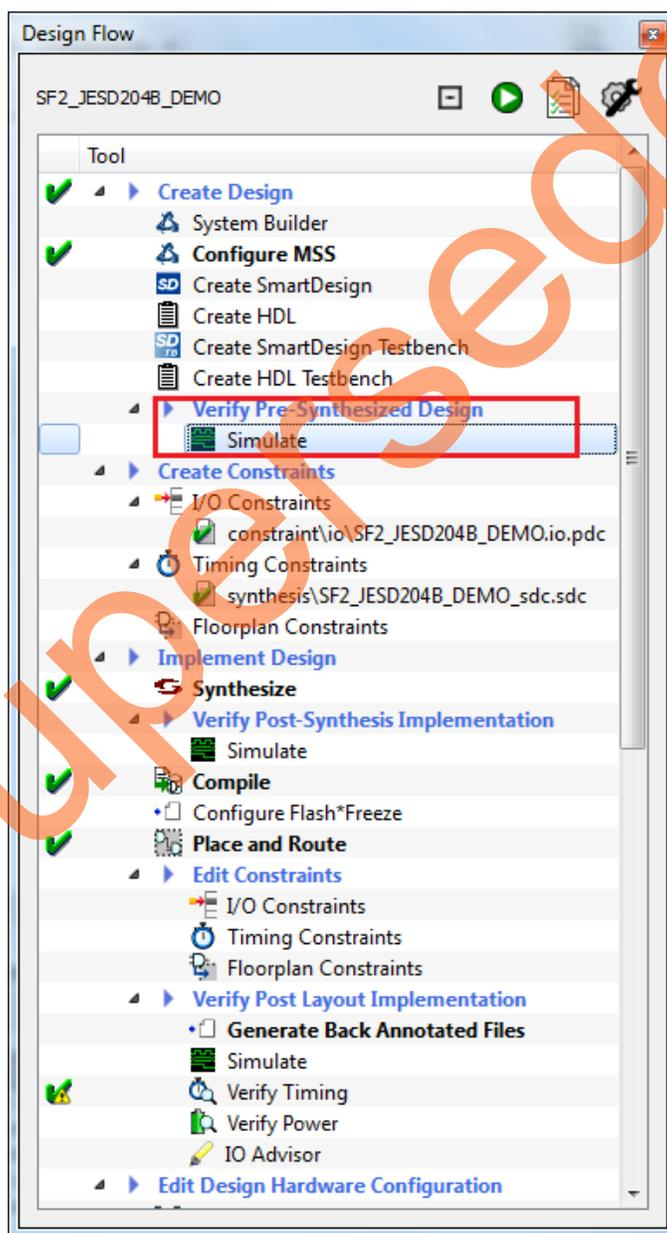

Figure 6 • Simulating the Design
- Double-click **Simulate** under **Verify Pre-Synthesized Design** in the **Design Flow** tab of the Libero project, as shown in Figure 6.